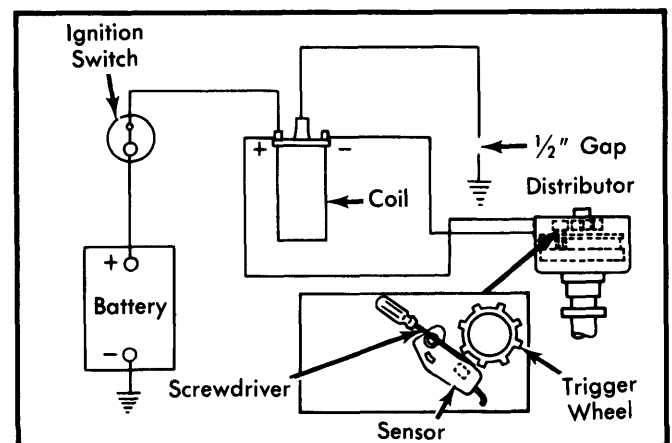

Fig. 8 Checking Ignition Coil Operation
1) Remove coil wire from distributor cap. Hold end of coil wire $\frac{1}{2}$ " from engine ground. See Fig. 8.